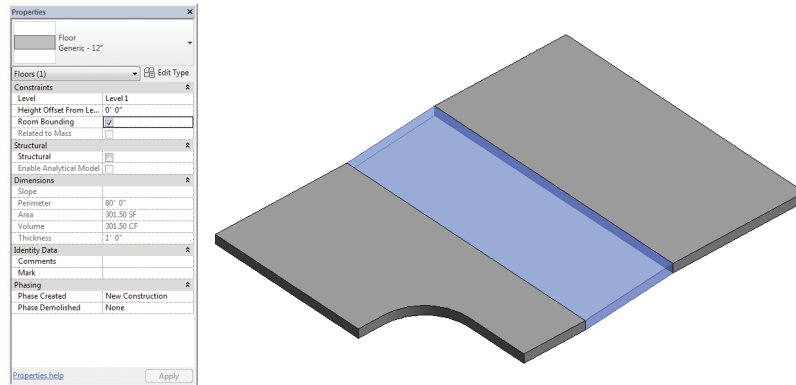

FIGURE 3.8 Completed sloped floor
4. Finish the sketch, and return to your default 3D view (Figure 3.8), which shows the finished condition. Now the sloped floor connects the lower and upper floors.